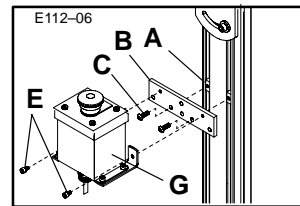

Figure 6: E-Stop Vertical Mounting to Aluminum Support Stand Leg
- b. Attach the Pushbutton Box assembly to the Leg channel in the manner shown in Figure 6. Attach the Pushbutton Box assembly with Mounting Brackets (in the same way it was packaged, when shipped) to the two Single Drop-in T-bars, using the M6 x 16 mm Button Head Cap Screws. Tighten Screws with 4 mm Hex Key Wrench provided.